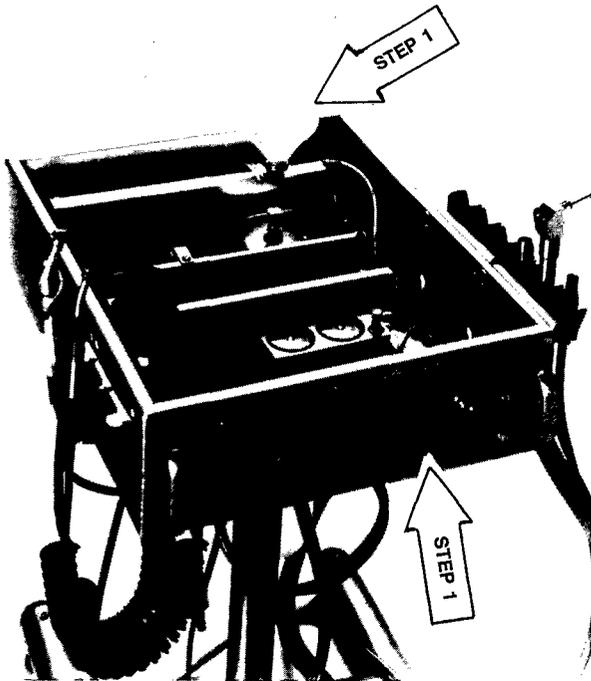

FIGURE 16
1. Be sure the Water Pressure On-Off toggle (Figure 16) is turned OFF. Press the vent button on